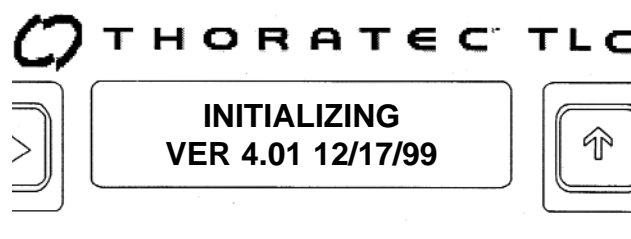

Figure 4.5 TLC-II Control Panel Display During Initialization
- 4.2.8** Turn on the TLC-II with the keyswitch. Note that the emergency backup system turns on for about 3 seconds and the control panel on the TLC-II Driver briefly displays "INITIALIZING" and the software version number and date (**Figure 4.5**).
- 4.3.5 Turn on the TLC-II with the keyswitch. Note that the emergency backup system turns on for about 3 seconds and the control panel on the TLC-II Driver briefly displays "INITIALIZING" and the software version number and date (**Figure 4.5**).